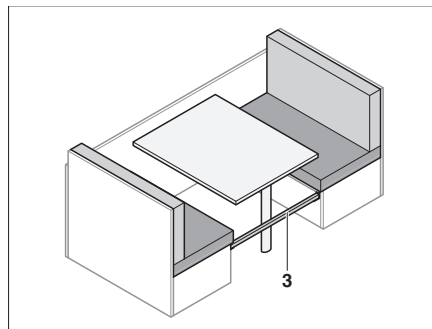

Fig. 69 Inserting the reinforcement panel
- Insert the additional rail (Bild 69,3) between the benches.